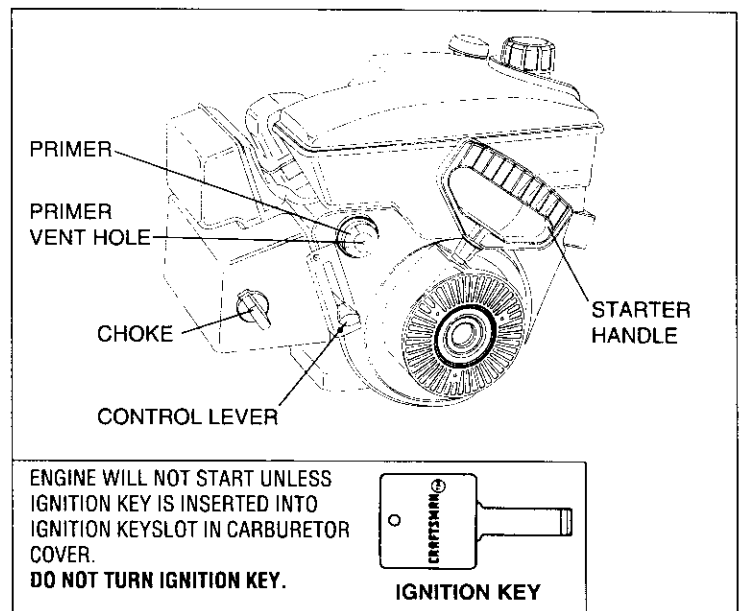

Figure 2
- C. Insert ignition key into ignition keyslot in carburetor cover (see Figures 2 and 3).
- A. Move engine CONTROL LEVER (see Figure 2) to "FAST".
B. Move engine CHOKE (see Figure 2) to "FULL".
- C. Push PRIMER three (3) times (see Figure 2). Always cover vent hole when pushing primer.
- D. Grasp STARTER HANDLE (see Figure 2), and pull rope out, slowly, until it pulls slightly harder. Let rope rewind slowly. Then pull rope with a rapid full arm stroke. Let rope rewind SLOWLY. Do not let STARTER HANDLE snap back against starter.
- Remove ignition key (see Figure 2 or 3) from carburetor cover.